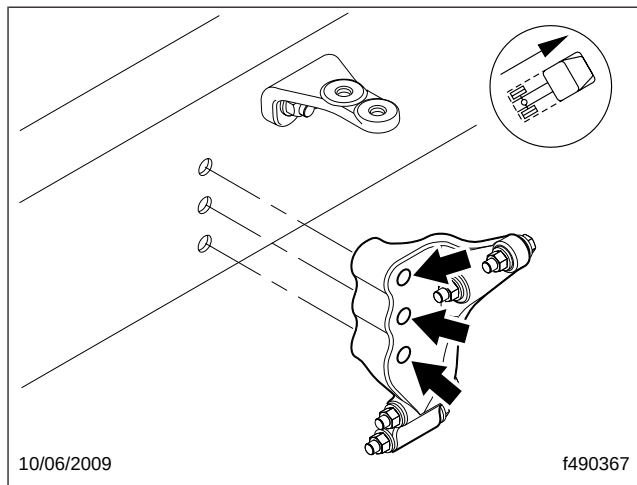

Fig. 7, Rear ATD Mounting Bracket
12. On the rear ATD mounting bracket remove the three bolts that fasten the ATD mounting bracket to the frame rail. See Fig. 7.